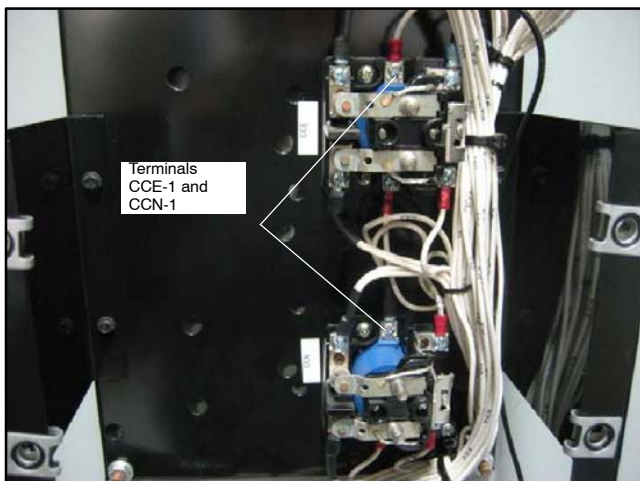

Figure 41 Disconnect Lead 33 from CCN-1 and CCE-1
26. Disconnect the leads labelled 33 from terminals CCN-1 and CCE-1. See Figure 41.